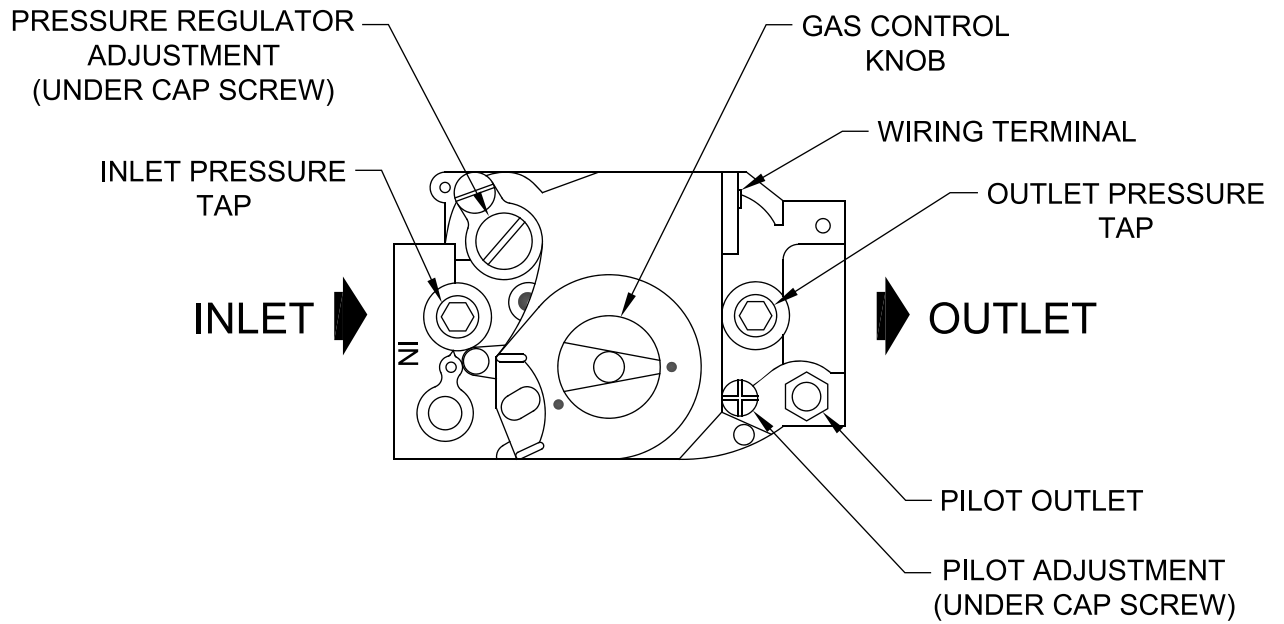

Figure 10-6: Combination Gas Valve Detail
4. Install pressure tap on combination gas valve inlet. See Figure 10-6.